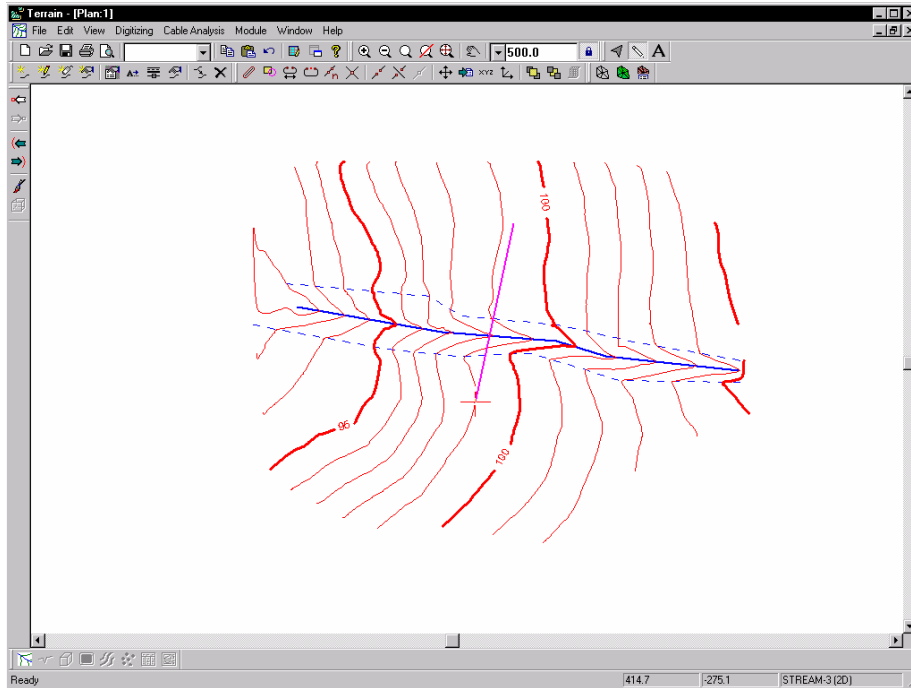

Figure 9.4: 2D Feature across the Stream
5. Draw a feature with two points perpendicular to the stream (similar to that shown in *Figure 9.4 - 2D Feature Across the Stream*) For more information about drawing a feature please refer to the Mapping and Drafting section of this manual. Right mouse click, and select “Select with Mouse”.
3. In the Plan Window, draw a feature with two points perpendicular and crossing the stream as shown in Figure 9.4.